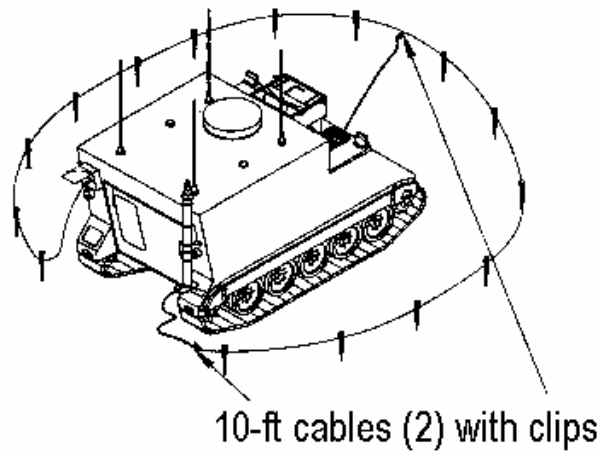

Figure 9 - A typical installation of the SWGK
3) Surface Wire Grounding Kit (SWGK) – Also known as the Surface Wire Ground System, it was designed primarily for use with systems requiring high mobility/quick installation and teardown operation. It consists of 15 ten-inch stakes installed in a circular pattern and interconnected with a 3/16-inch steel cable. The SWGK is available in the Army inventory under the official nomenclature of Grounding Kit, MK-2551 A/U, NSN: 5820-01-263-1760 (see figure 9).